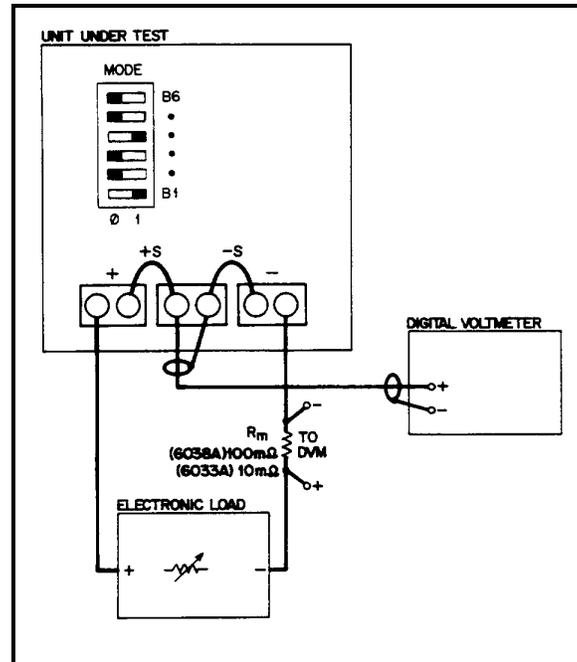

Figure 2-5. Basic Test Setup
- Connect the test equipment as shown in Figure 2-5. Operate the load in constant resistance mode (Amps/Volt) and set resistance to maximum.
Use the equipment setup of Figure 2-5 to display output voltage transients while switching the load between 10% with the output set at:
- a. Connect the test equipment as shown in Figure 2-5. Operate the load in constant-current mode and set for minimum current.
- a. Connect test setup shown in Figure 2-5, except replace the load with a short circuit.